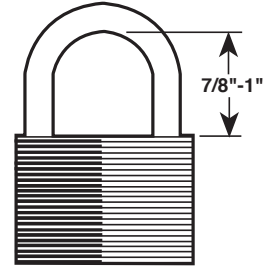

Figure 3
**PADLOCK INFORMATION-** Padlock with 7/8"-1" shackle height (figure 3) (recommended Master No 5 or equivalent, not included).